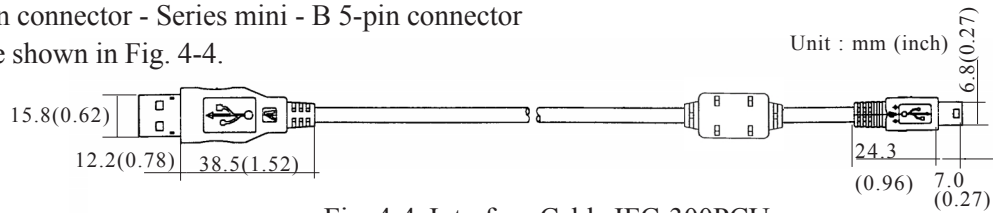

Fig. 4-4 Interface Cable IFC-300PCU
- The dimensions are shown in Fig. 4-4.